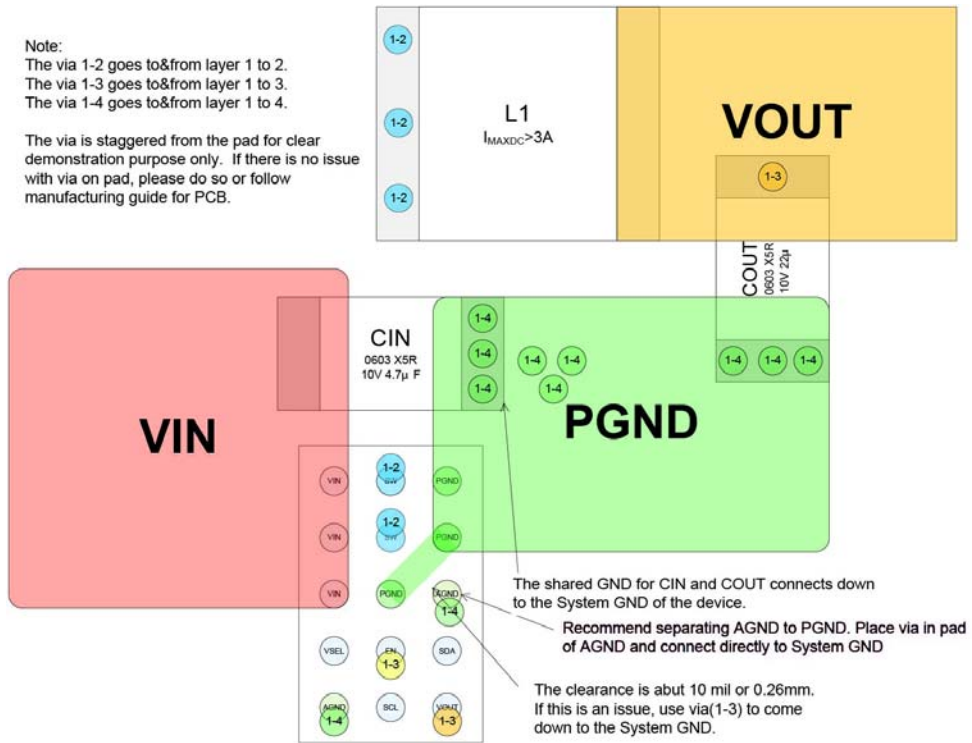

Figure 24. Guidance for Layer 1
1. The input capacitor (C_{IN}) should be connected as close as possible to the VIN and GND pins. Connect to VIN and GND using only top metal. Do not route through via (see Figure 24).
2. Place the inductor (L) as close as possible to the IC. Use short wide traces for the main current paths.